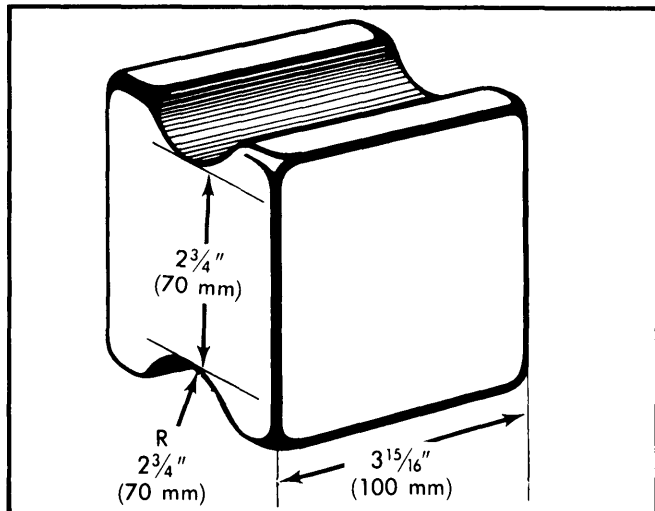

Fig. 1 Drive Line Support Block
2) Disconnect all wiring, hoses, lines, linkage and brackets from engine. Disconnect exhaust pipe at manifold. Support drive line at front brace with wooden block. See Fig. 1.